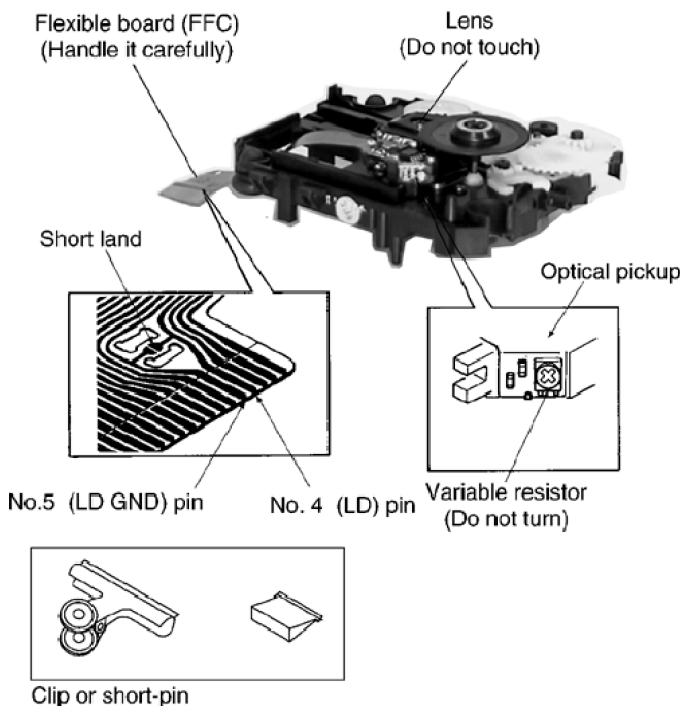

Fig 4.1
2. The short land between the No.4 (LD) and No.5 (GND) pins on the flexible board (FFC) is shorted with a solder build-up to prevent damage to the laser diode.
3. Take care not to apply excessive stress to the flexible board (FFC board) (Fig 4.1).